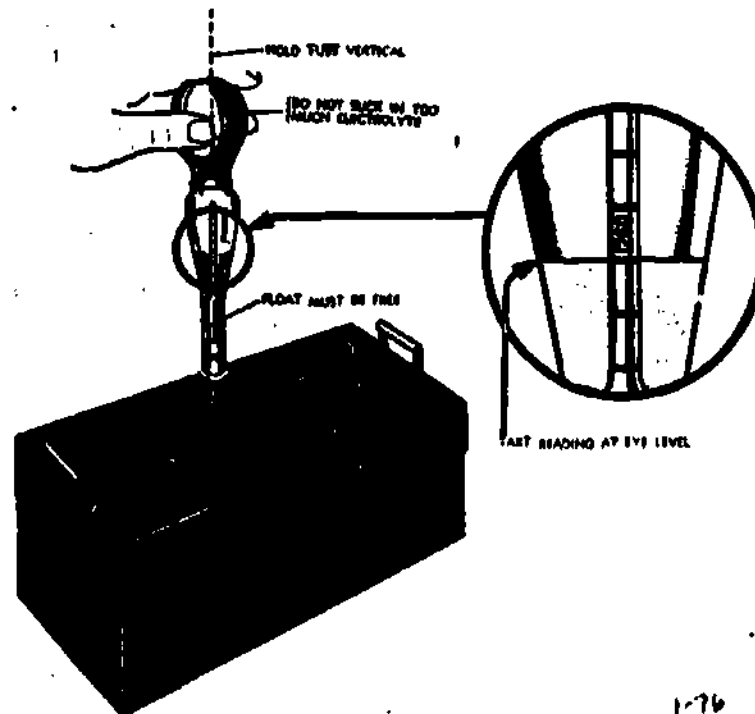

Fig 1-76. A specific gravity being taken of one cell. The reading indicates a specific gravity of 1,260 without temperature correction.
- Repeat this procedure until each cell has been checked. For example, the insert shown in figure 1-76 shows that the electrolyte level registers on the float at the number 1,260. This means that the cell has a specific gravity reading of 1,260 without temperature correction.